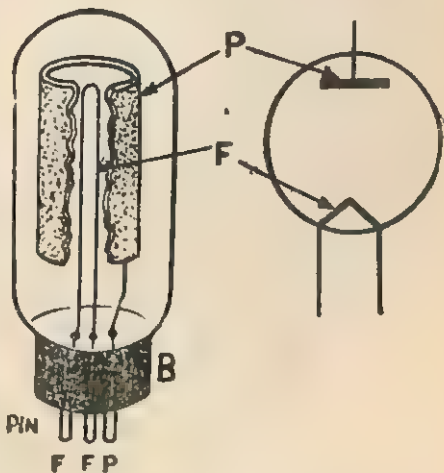

Fig. 13.5. A diode valve and its representation.
**Diode Valve.** The diode is the simplest type of vacuum tube. It consists of a **cathode** *F* which serves as electron emitter and an **anode** *P* which acts as electron collector and surrounds the cathode as shown in Fig. 13.5. Both these elements are enclosed in an evacuated glass or metal tube. The **anode** is generally a metallic plate like nickel, a molybdenum plate. The construction of the cathode we have already discussed and, in this case, it may be either a **directly** or **indirectly** heated cathode. The plate is connected to the **base pin** *P* and the two ends of the filament are connected to the base pins *F* and *F* through the bakelite base *B* of the tube. The symbolic representation of a diode is shown in Fig. 13.5 (b).
**Cathode** is either directly or indirectly heated type of thoriated tungsten metal and serves as an electron emitter. The cathode is surrounded by the **grid** which is usually, a few turns, of metal wire in a helical form as shown in Fig. 13.5 (a). The grid is surrounded by a metal hollow cylindrical tube called the **anode** or the **plate** *P*. The grid is nearer to the cathode than to the plate. The three electrodes inside the tube do not touch each other. The two ends of the filament are connected to two base pins *F* and *F*. The grid and plate are connected to base pins *G* and *P* respectively. Tube base is made of bakelite.